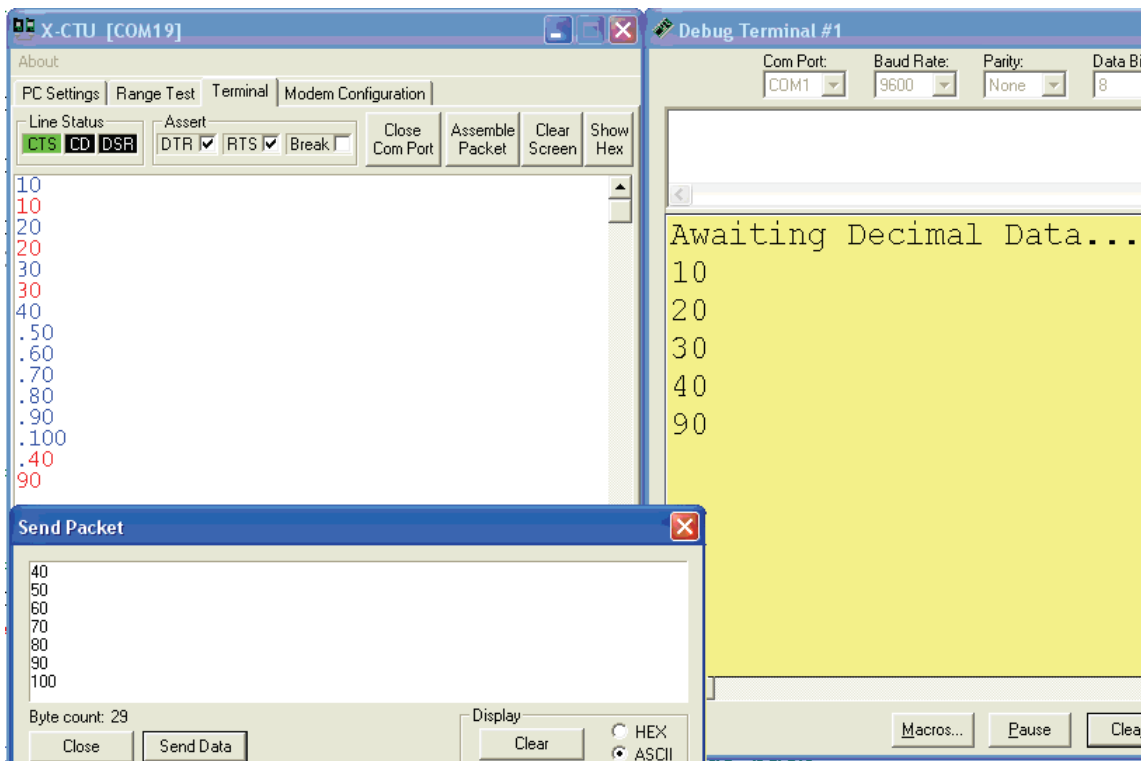

Figure 4-5: Simple Decimal Receive Testing
- ✓ Send the packet and monitor the results. The first value is used and displayed, several are skipped, and then another is accepted and used as show in Figure 4-5.